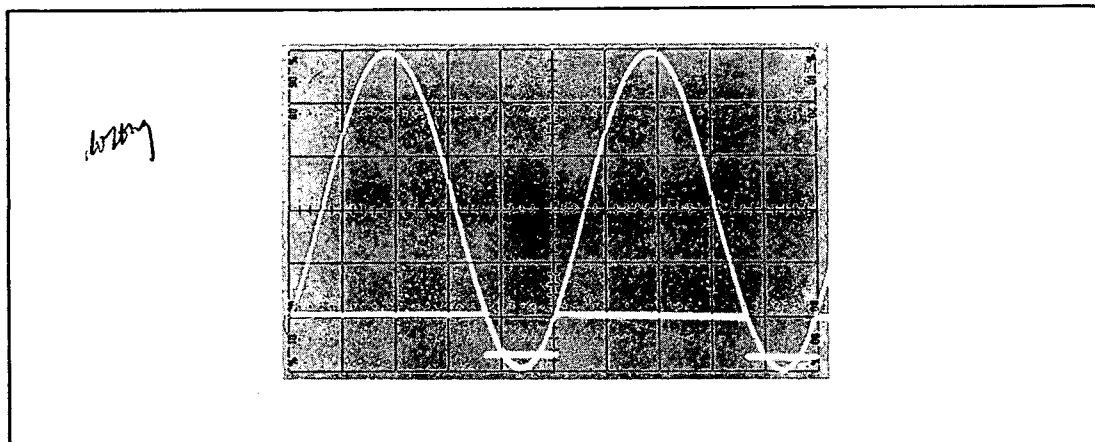

Figure 4-25. Triggering Level Test Waveforms — III
- k. Adjust the Oscilloscope's Channel "B" controls so the top of the Model 5328B's Channel "B" MARKER OUTPUT waveform just barely intersects the positive-slewing and negative-slewing portions of the 100 Hz sine wave as shown in *Figure 4-25*. Verify that this occurs at +2 volts on the 100-Hz sine wave.
- m. Adjust the Oscilloscope's Channel "B" controls so the top of the Model 5328B's Channel "A" MARKER OUTPUT waveform just barely intersects the positive-slewing and negative-slewing portions of the 100 Hz sine wave as shown in *Figure 4-25*. Verify that this occurs at -2 volts on the 100-Hz sine wave.
- o. Adjust the Oscilloscope's controls to position the Channel "B" marker as shown in *Figure 4-25*. Verify that the Channel "B" marker intersects the 100-Hz sine wave at -2 volts.